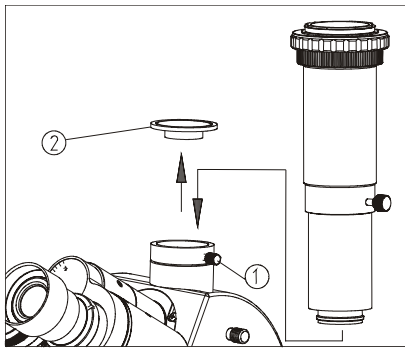
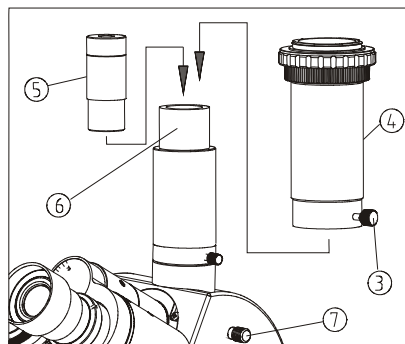

Fig.37
Fig.38
- (1) Loosen the lock screw① of trinocular head, take out the dust-cover②. (See Fig. 37)
- (2) Insert the photography device into the trinocular head as shown in the figure, and screw down the lock screw①.
- (3) Loosen the lock-screw③ of the photography adapter and take down the photography adapter④ (See Fig. 38).
- (4) Insert the 3.2X photography eyepiece⑤ into the eyepiece base ⑥, install the photography adapter④ and tighten the lock-screw③.
- (5) Do binocular observation, after the image is clear, pull the light path selecting pole⑦ to the outmost, then operate the photography device according to its instructions.